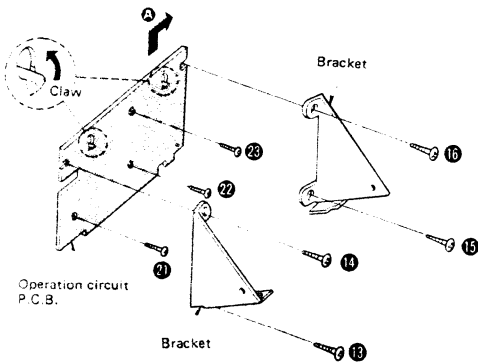

Fig. 3
1. Remove the 4 setscrews (Fig. 3 : ⑬ ~ ⑯) of the bracket.
3. Remove the 3 setscrews (Fig. 3 : ⑰ ~ ⑳) of the printed circuit board.
4. Loosen 2 claws upward to remove them from the printed board. (Fig. 3)
5. Remove the printed circuit board in the direction of the arrow A. (Fig. 3)